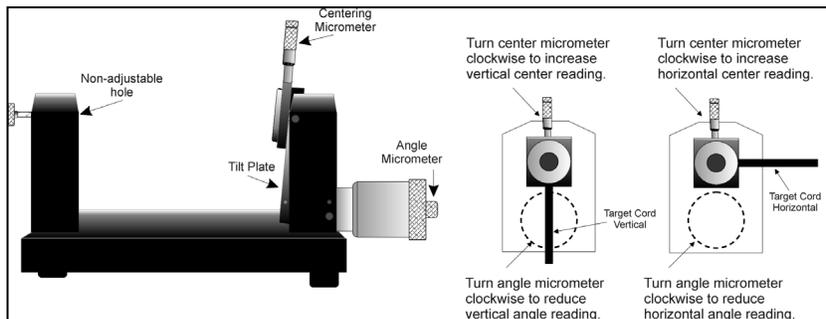
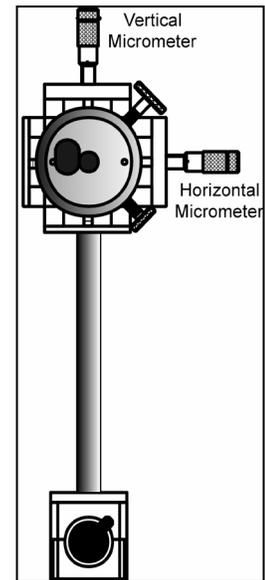

Figure 17 – Model A-807 Calibration Mounting Fixture
Figure 18 – T-230 Target Stand
**Note:** Figure 17 shows the target mounted in the Hamar Laser A-807 fixture stand. In order to take advantage of the automated calibration features available with the Read8 software, this fixture stand must be used for calibrating center and slope targets. Mount the laser in the non-adjustable hole on the fixture. Mount the target in the tilt plate with both the target and laser in the normal position (cord down).
An appropriate target stand with micrometer stage, such as the Hamar Laser T-230, or any calibrated x-y slide may be used when calibrating center-only targets (see Figure 18).
*Note: The preferred procedure is to calibrate the vertical axes, both center and slope if appropriate, then rotate the target in the fixture 90 degrees and calibrate the horizontal axes (see Figure 17 ). If working with a fixture that has a horizontal micrometer, there is no need to rotate the target (see Figure 18).*
*Note: If using the Model A-807 Calibration Mounting Fixture, (see Figure 17) the target must be rotated 90° before performing a horizontal calibration. If the calibration fixture you are using has two centering micrometers, such as the T-230, the horizontal centering micrometer may be used and there is no need to rotate the target.*
In order to use the automated features of the Read8 software, calibration for a center-and-slope target must be performed with the target mounted in the A-807 calibration mounting fixture (see Figure 17). This fixture is equipped with both a centering micrometer and an angle micrometer.
- Note: If using Model A-807 Calibration Mounting Fixture, (see Figure 17) the target must be rotated 90° before performing a horizontal calibration. If the calibration fixture you are using has two centering micrometers, such as the T-230, the horizontal centering micrometer may be used and there is no need to rotate the target.*